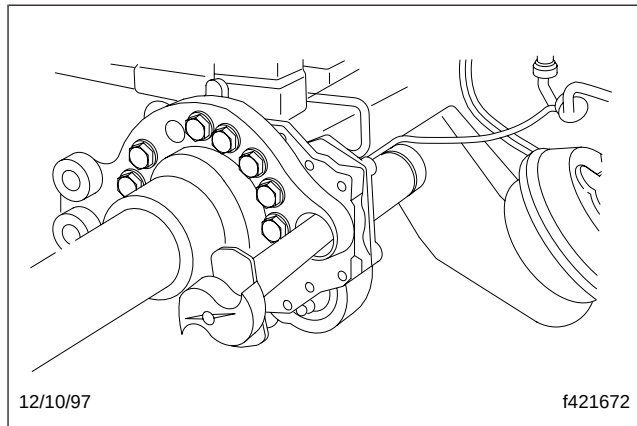

Fig. 12, Installing the Camshaft
6. Install the camshaft, as follows. See Fig. 12.